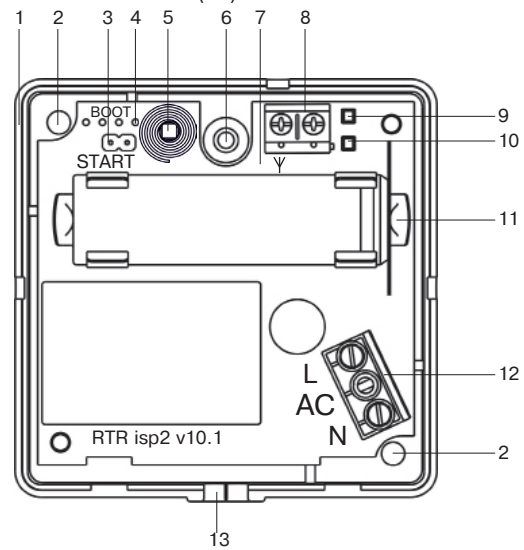

Figure 1 – CN-Repeater-AC with removed cover
The CN-Repeater layout with removed cover is shown in Figure 1. The base (1) comprises the following elements:
- hole (6) for cover fixation;
- two holes (2) for CN-Repeater fastening to mounting surface;
- recess (13) for power cord wiring.